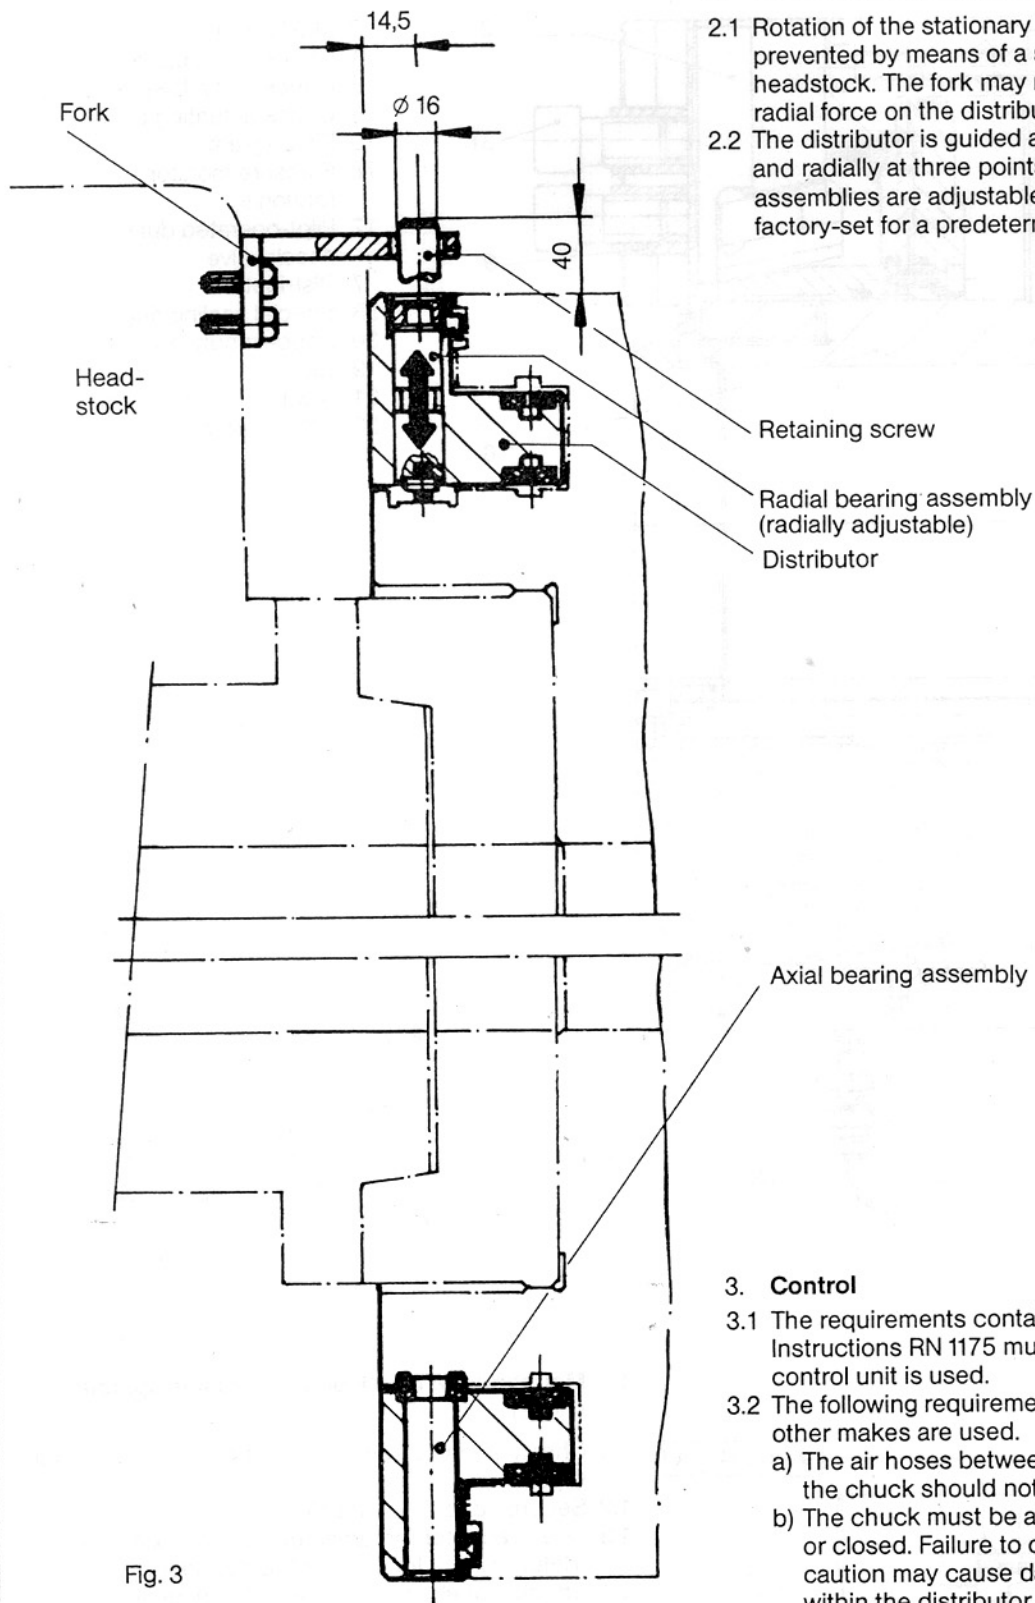

Fig. 3
2. **Preventing rotation of the distributor** (Fig. 3)